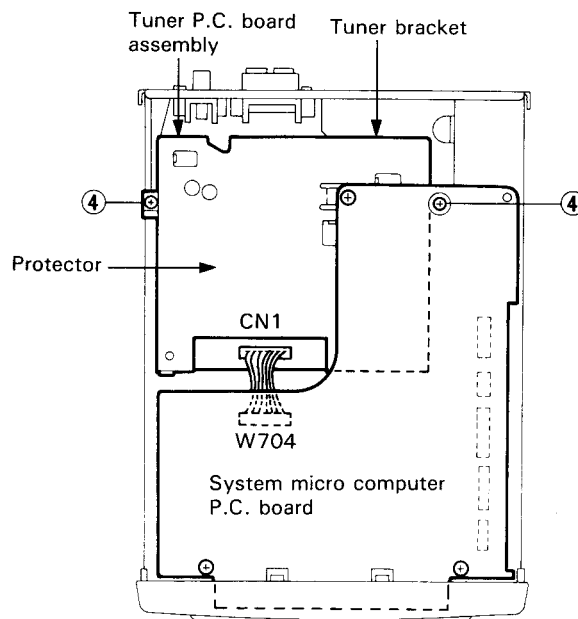

Fig. 7-7
(Refer to Figs. 7-7 ~ 7-9)
3. From the tuner bracket, remove the two screws (4) retaining the protector covering the tuner P.C. board (Refer to Fig. 7-7).